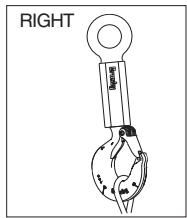

Figure 3
- When placing two (2) sling legs in hooks, make sure the angle between the legs is less the 90° and if the hook or load is tilted, nothing bears against the bottom of this latch. (See Figures 3 & 4)